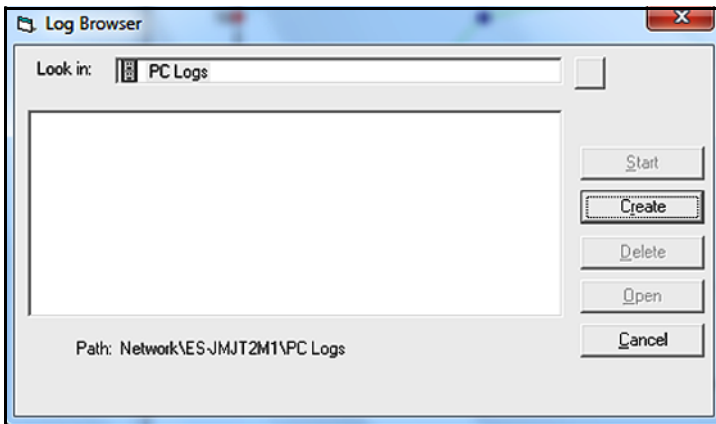

Figure 72: Create a PC Log
4. Double click on *PC logs* to advance to the dialog box shown in *Figure 72* below.
5. At the dialog box shown in *Figure 72 on page 92*, click on the [Create] button to create a new meter log.